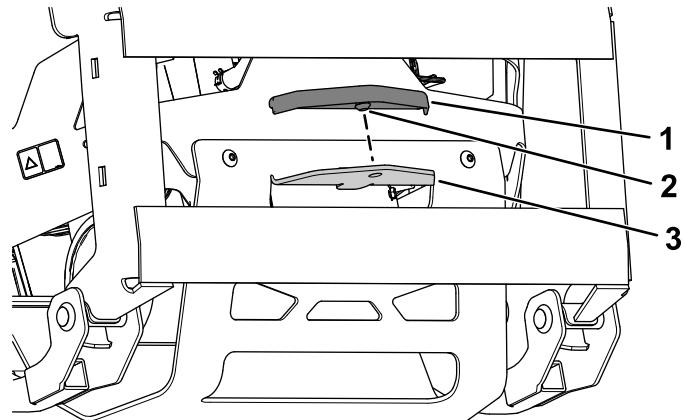

Figure 14
2. Align the hitch cover over the hitch and press it into place (Figure 14).